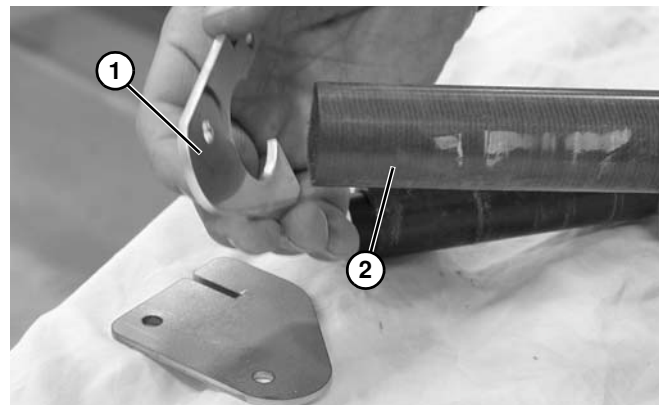

Figure 62
5. If equipped, remove retaining plates (Figure 62, item 1) off the ends of the wear bar (Figure 62, item 2). Inspect bar surface. If worn or damaged, replace bar. See “Service Parts” on page 26.